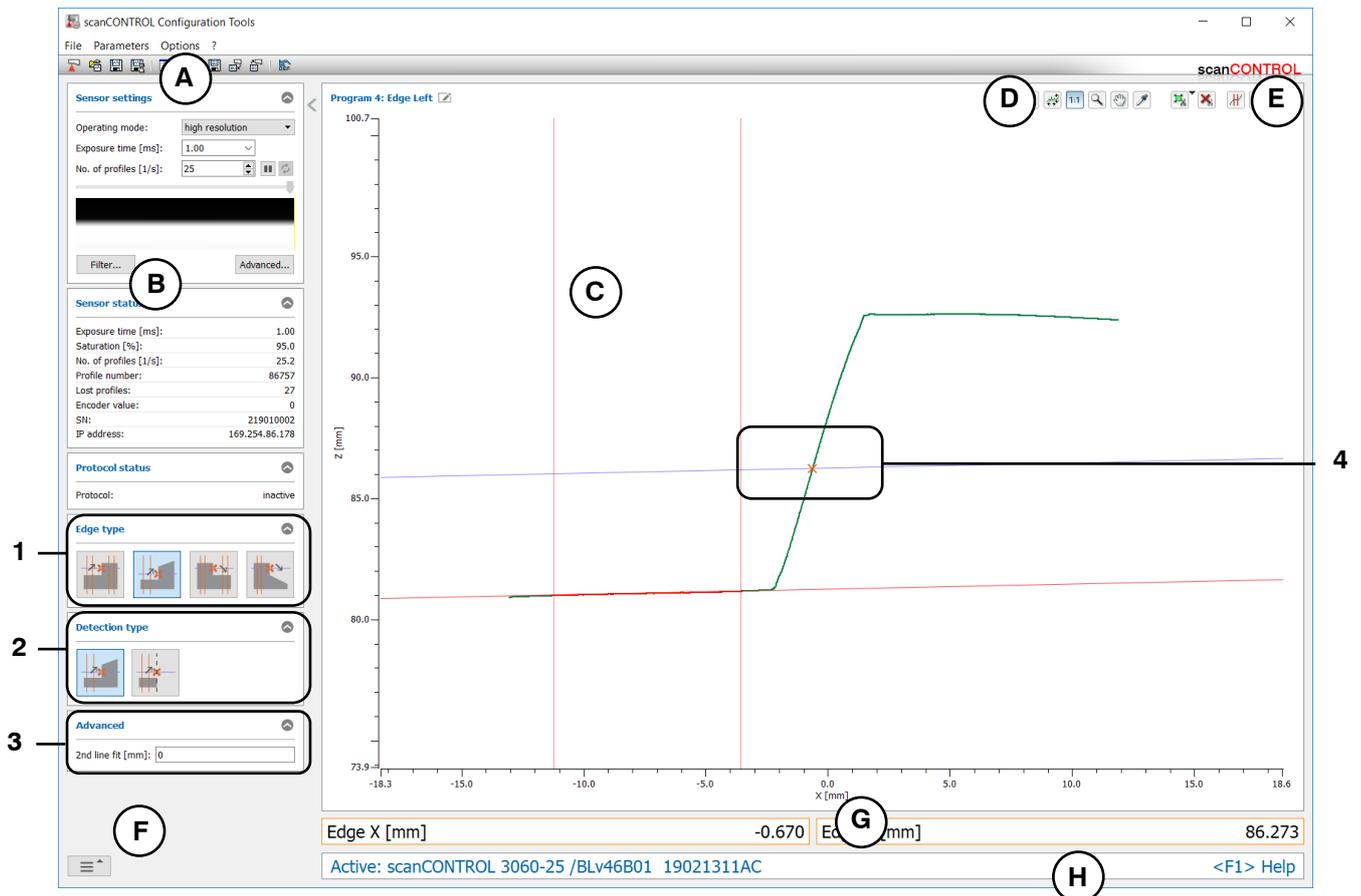

Fig. 4.18: "Edge Left" measuring program
- Define the type of edge (see Fig. 4.18 and Chapter 3.13.1):
- Define the type of detection (see Fig. 4.18 and Chapter 3.13.1):